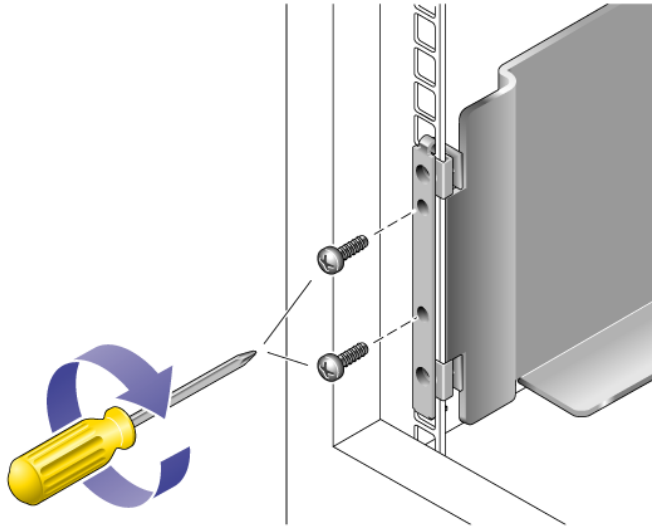

FIGURE 2-26 Securing the Rail to the Front of the Cabinet
3. Use the #2 Phillips screwdriver to insert and tighten two 8-32 screws to secure the rail to the front of the cabinet (FIGURE 2-26).